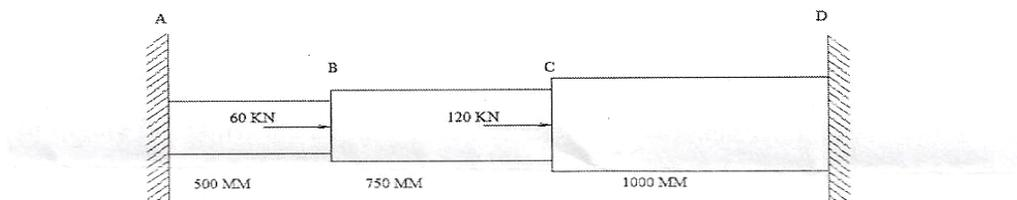

Figure 1b
1. a. Draw stress strains diagram for aluminium and for mild steel, clearly mention all point on the diagram (8)
b. A bar ABCD is fixed at point A and D as shown Figure 1b. it is subjected to axial forces of 60 KN and 120 KN at point B and C respectively. The cross-sectional areas of AB, BC and CD are  $1000\text{mm}^2$  and  $1500\text{mm}^2$  and  $2000\text{mm}^2$  respectively. Take  $E=200$  GPa. Determine: